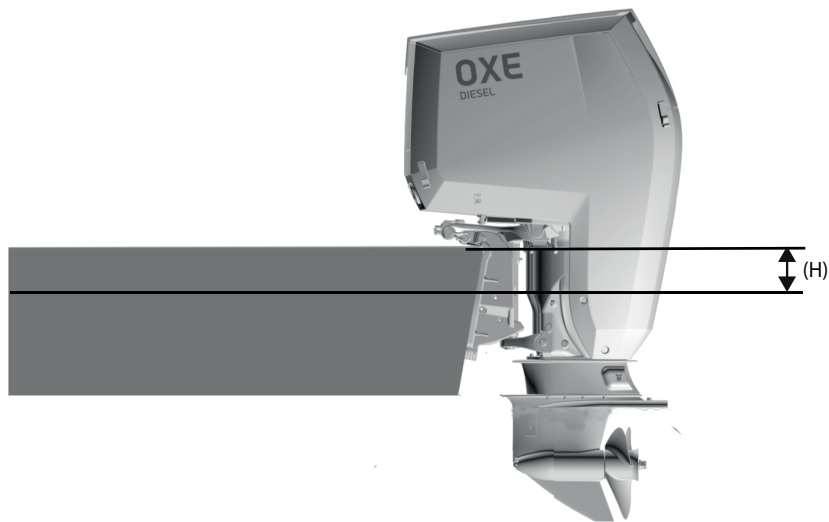

Fig. 31 The minimum allowable height
Maintain the specified minimum height (H), as illustrated, between the waterline and the clamp bracket seating surface under full-load, static conditions. Reverify and adjust this height if any modifications are made to the vessel's centre of gravity (CG) or if the maximum payload is increased. See Figure 31.